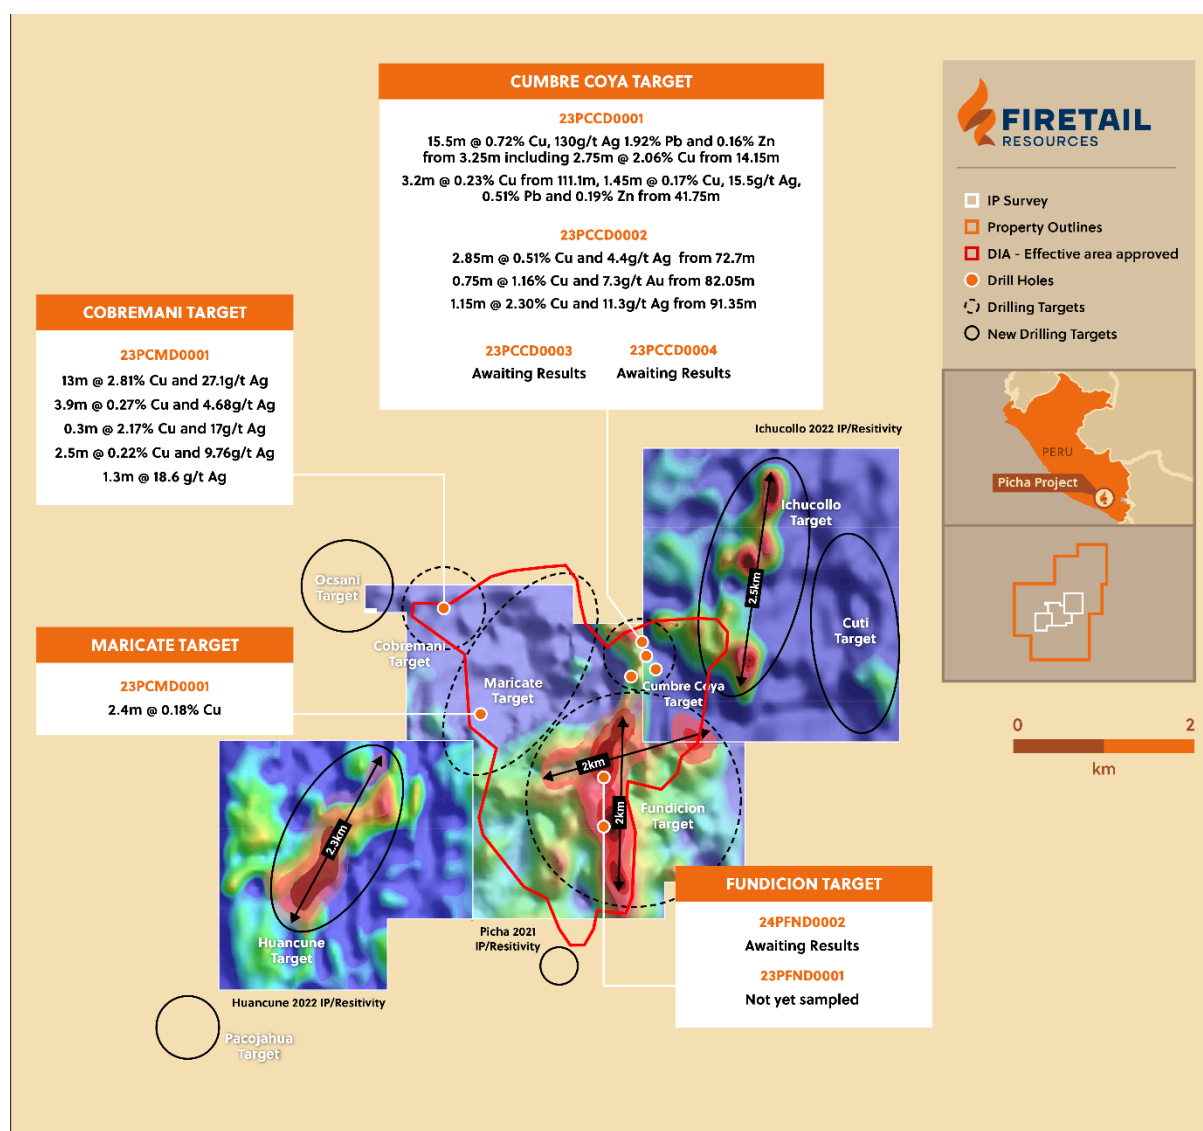

Figure 6: Picha Project drill program – results to date^{3, 4}
A second drill hole, 24PFND0002, was completed at the Fundicion target, which was designed to test part of the Induced Polarisation (IP) chargeability anomaly (see Figure 6). This drillhole is located around 500m north of the first drillhole at Fundicion² (23PFND0001). See Table 1 for drillhole collar details.